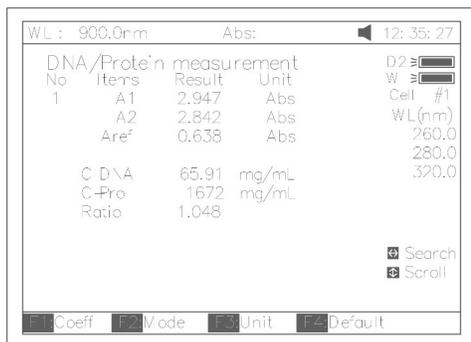

Fig 65
- 3 Pull the sample cuvette into Main Light Path, press **【START】** to test the sample. The test result will be displayed on the screen (Fig 65).